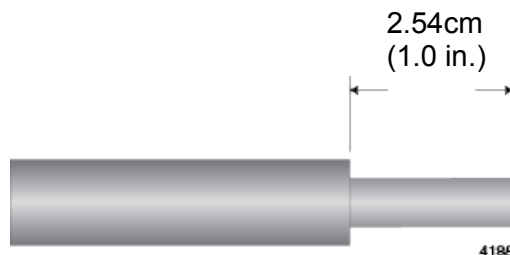

Figure 41. Stripping the Grounding Wire
1. Strip 2.54cm (1.0 in.) of insulation from the end of the solid grounding wire with a wire insulator stripper. Refer to Figure 41.